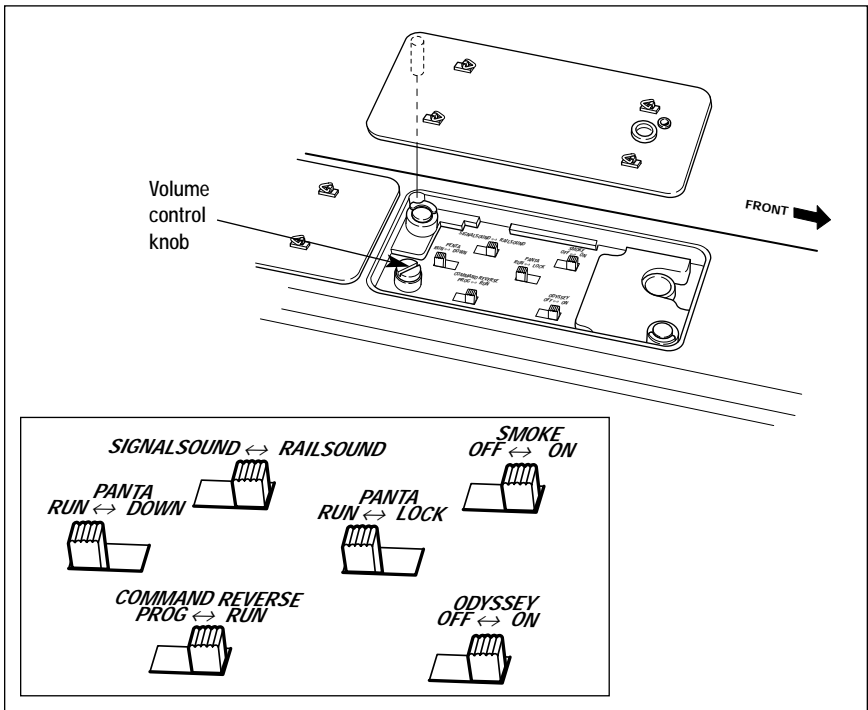

Figure 1. Switch locations
Use the **HORN** and **BELL** buttons on your transformer to activate those features. Refer to page 15 if your transformer is not equipped with those buttons. Adjust the volume using the volume control knob located under the removable roof-top hatch. Refer to Figure 1 on page 7.
To “lock” your locomotive into a single direction (for example, to operate in forward only), you can deactivate the Command reverse unit’s sequencing function. Refer to Figure 1 for the location of the Command reverse unit switch.
**Y**our locomotive is equipped with a smoke unit to simulate the operation of the steam generator. When the smoke unit switch is in the ON position, always be sure that there is a small amount of smoke fluid in the smoke generator. To turn off the smoke unit, slide the smoke unit switch to the OFF position. See Figure 1 on page 7 for the switch locations.
To silence the motor sounds, slide the RailSounds 5.0 sound system switch located on the under the front roof-top hatch to the SIGNALSOUNDS position before you power up the locomotive or after the locomotive has been powered down for a minimum of ten seconds. The horn and bell sounds will still be active. To adjust the volume, use the volume control knob located beneath the front roof-top hatch. Refer to Figure 1 on page 7.